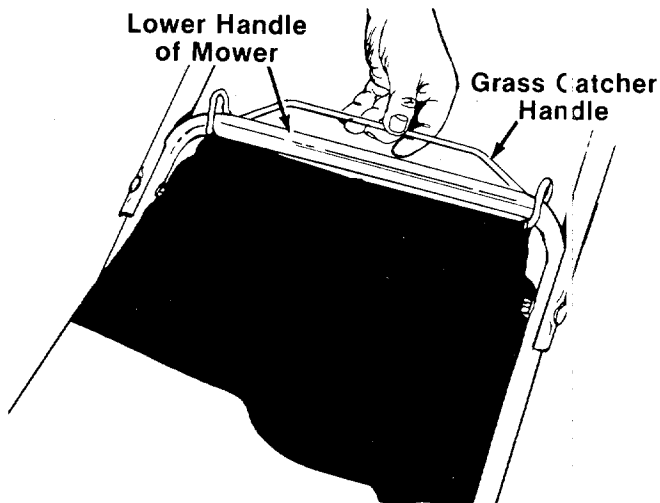

FIGURE 15.
3. Hook the handle on the rear of the grass catcher over the lower handle of the mower. See figure 15.